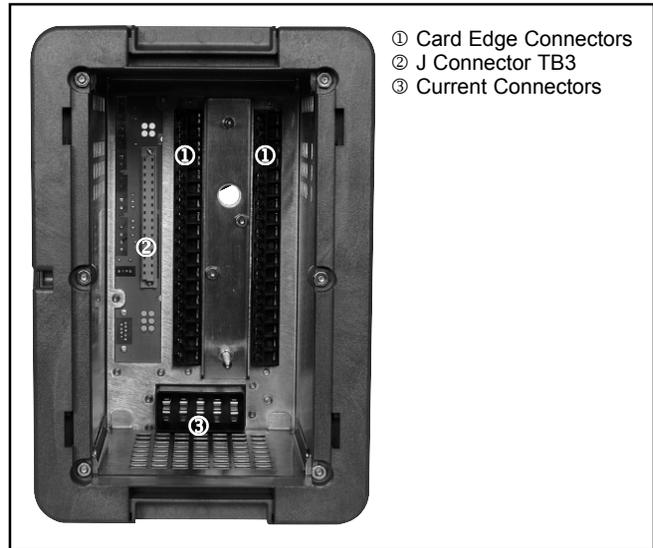

Figure 6-7. Internal View of Case Connectors
**Figure 6-7** provides a view of the case with the chassis fully withdrawn from the FP-5000 assembly. Several connectors can be seen in the rear of the enclosure. These connectors interface with their mating connectors of the Chassis. There are two card edge connectors, TB1 and TB2 (See **Figure 6-4** FP-5000 Rear Connections). TB1 connector is primarily used for the AC/DC power input and also relay contacts for relay RLY1 through RLY7, TB2 is used for the contact inputs and the phase voltage inputs. (See **Figure 6-5** Rear Terminal Designations.)